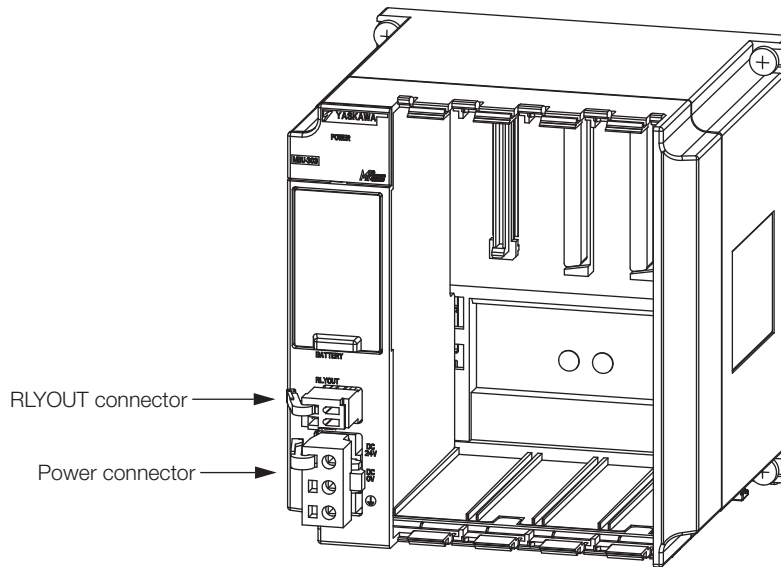

Figure 1 Base Unit
*Figure 1* illustrates the appearance of the Base Unit and a part name.